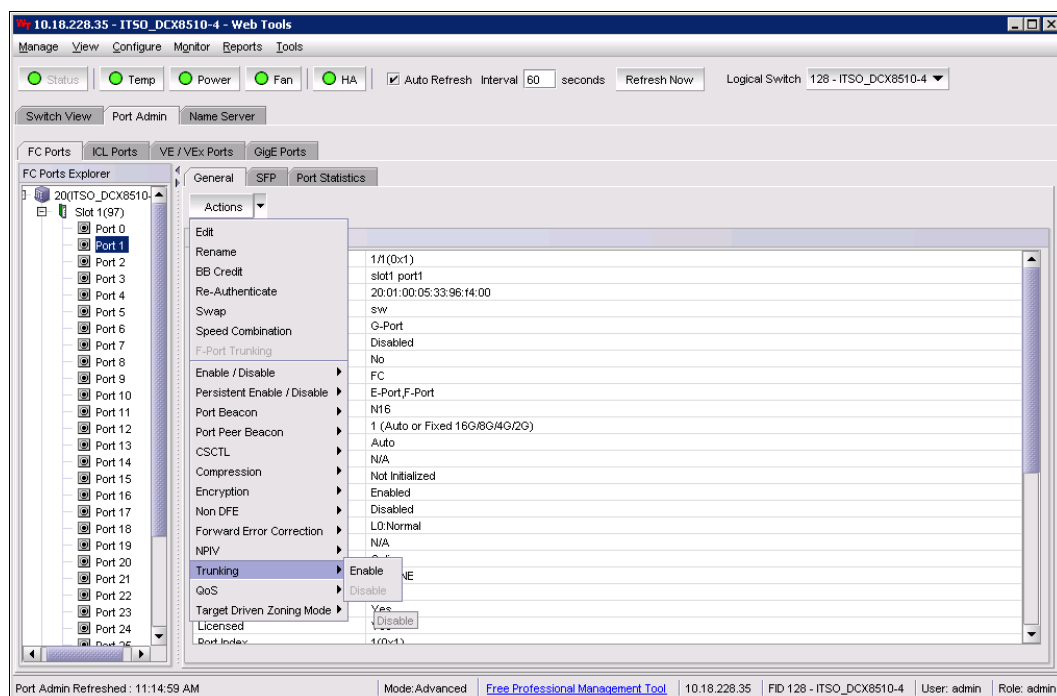

Figure 10-10 Enable the trunking option in Web Tools
3. Right-click the switch that you want to enable trunking for, and select **Element Manger** → **Ports**. The Web Tools window is displayed with the FC Ports tab selected as shown in Figure 10-10 on page 267.
Figure 10-10 shows the enable trunking option for a port.